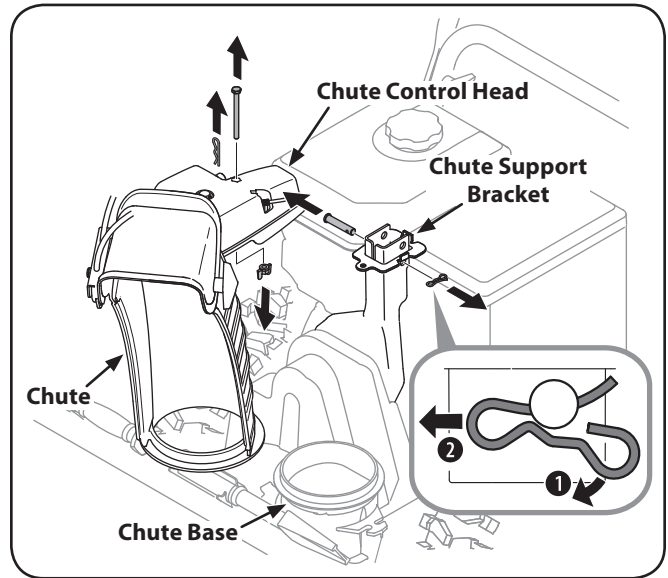

**Figure 3-5**
1. Remove the plastic cap (if present), flat washer and hairpin clip from the end of the chute directional control. See Figure 3-5.